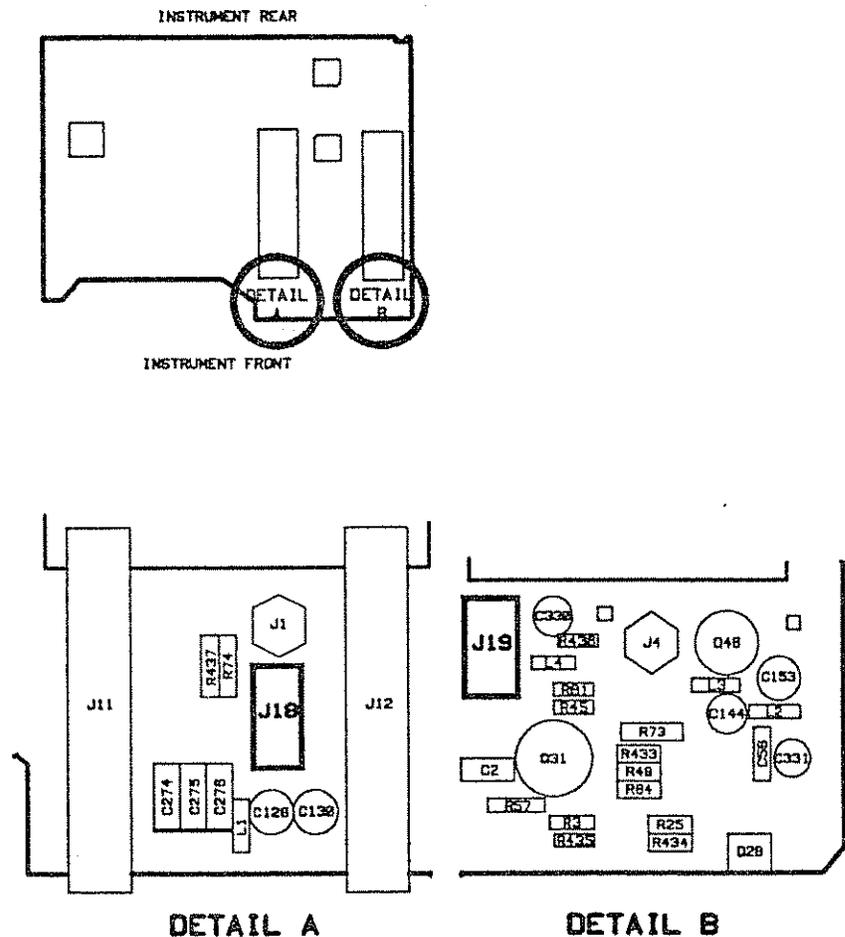

Figure 2-3. Channel 1 and Channel 4 DC Cable Locations
6. Depending on the channel in question, disconnect the cable at A1J18 (W26; CH 1) or A1J19 (W23; CH 4) on the A1 Control Board. See figure 2-3.